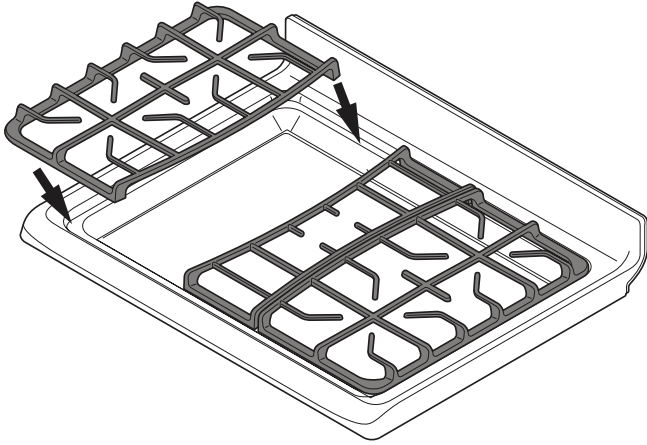

Figure 5: Gently move cap for proper placement
- Make sure the burner grates are properly placed on the cooktop before using the surface burners (Figure 5). The grates are designed to rest inside the recess on the cooktop.